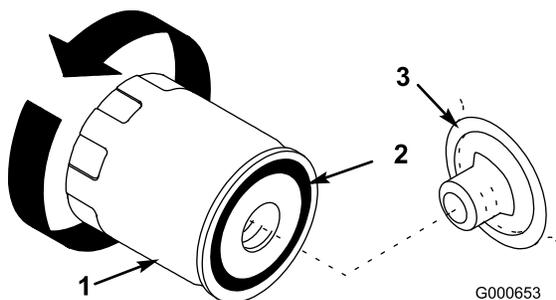

Figure 26
7. Remove the old filter and wipe the filter adapter (Figure 26) gasket surface.
10. Apply a thin coat of new oil to the rubber gasket on the replacement filter (Figure 26).
11. Install the replacement oil filter to the filter adapter. Turn the oil filter clockwise until the rubber gasket contacts the filter adapter, then tighten the filter an additional 1/2 turn (Figure 26).